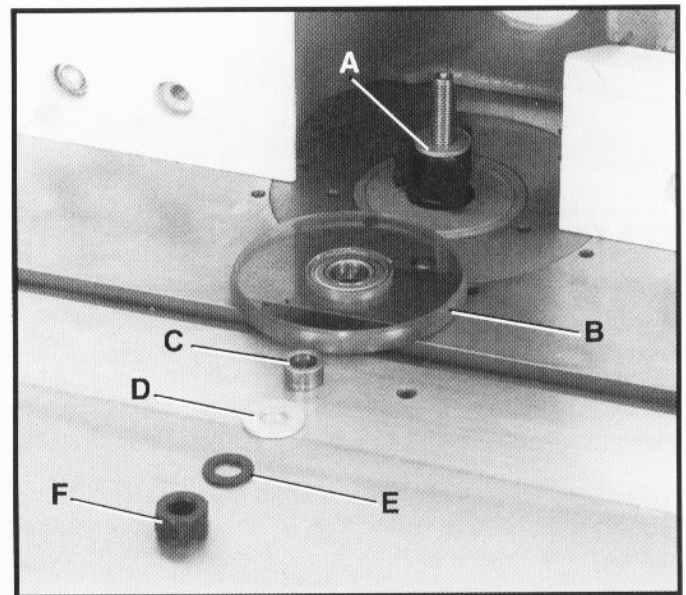

Fig. 17
1. Two 1/2" I.D. and two 3/4" I.D. washers are supplied with the 4-1/2" diameter spindle guard to accommodate 1/2" and 3/4" spindles; two 1" I.D. washers are supplied with the 6-1/2" diameter spindle guard. These washers are to be positioned directly above and below the spindle guard. Place one of the washers (A) on the spindle, over either the cutter or collar, as shown in Fig. 17.
2. Place the spindle guard (B) Fig. 17, on the spindle. The bushing (C), shown in Fig. 17, would be used for 1/2" spindles. Washer (D), is placed on the spindle directly over spindle guard (B).
3. **IMPORTANT:** Always place "keyed" washer (E) Fig. 17, on spindle before screwing on nut (F). The "keyed" washer (E), prevents the nut (F), from loosening when spindle turns counterclockwise.